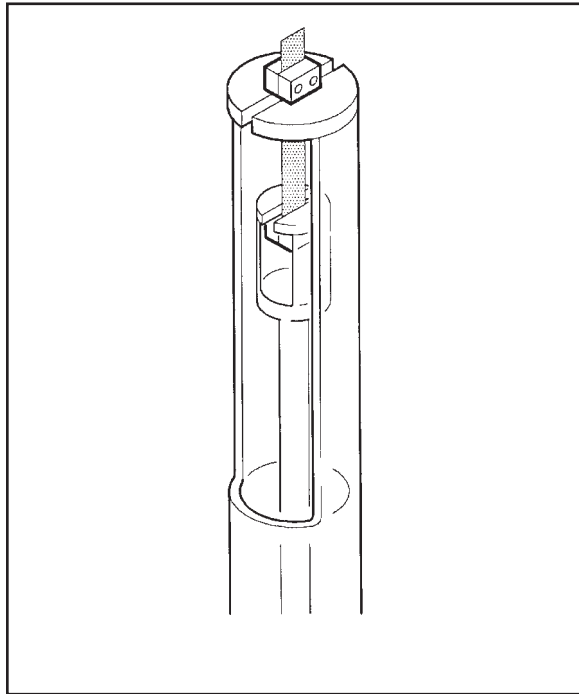

Figure 4.7
9. Position the second clamp below the slot in the film/fiber probe so that the film is suspended between the two clamps as shown in Figure 4.7.